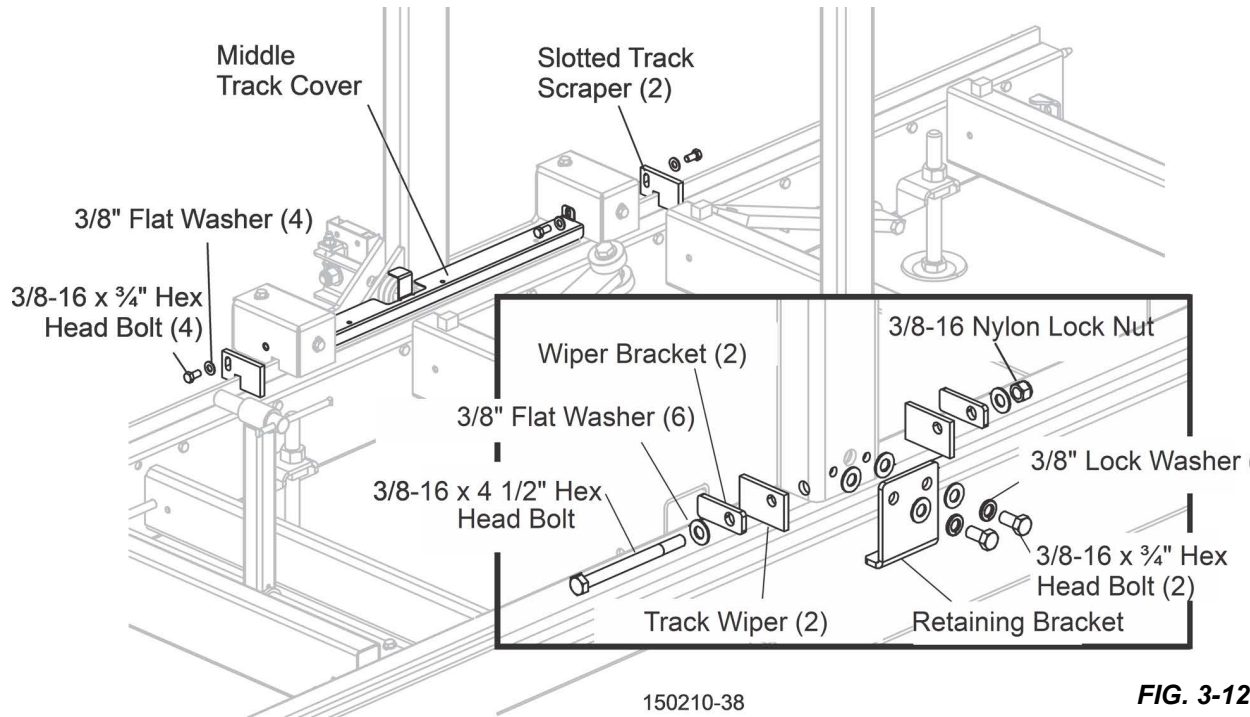

FIG. 3-12
5. Reattach the retaining bracket as shown in Figure 3-12.
8. Position the middle track cover between the two track roller housings so the opening in the cover is positioned over the roller as shown in Figure 3-12.
9. Install the remaining hardware (track scrapers and wipers) as shown in Figure 3-12.